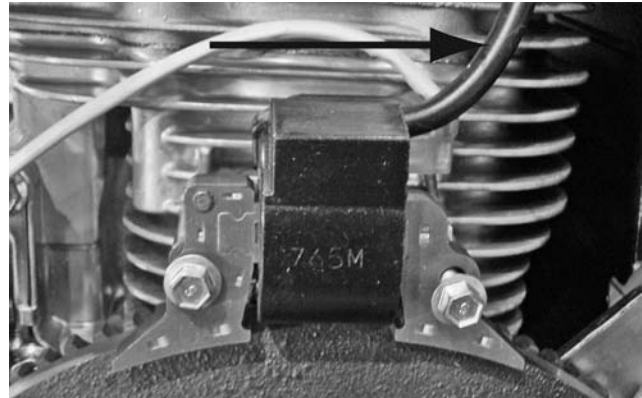
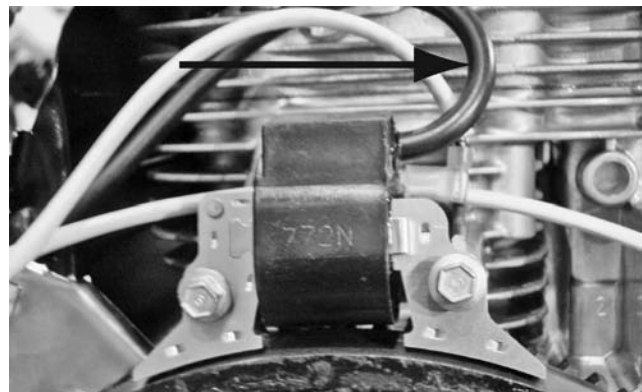

Figure 27. Cylinder One (Back, Short)
Figure 28. Cylinder Two (Front, Long)
3. Cylinder one is the back cylinder (Figure 27) and cylinder two is the front cylinder (Figure 28).